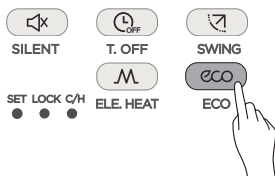

Figure 3.13
- 1) Press  (see Figure 3.13) to send the ECO signal to the indoor unit. The *eco* icon is displayed;